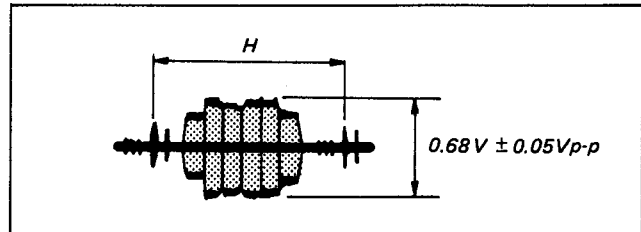

Fig. 5-28. ACC adjustment
- i) Adjust to $0.68\text{ V} \pm 0.05\text{ Vp-p}$ with RV001. (See Fig. 5-28.)